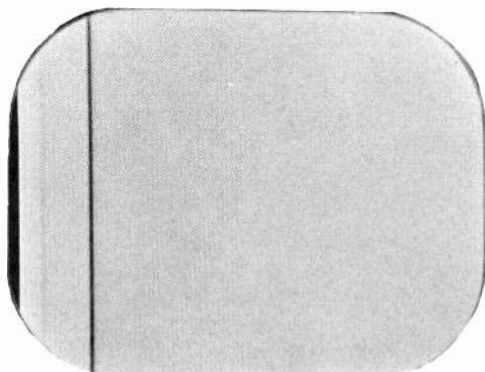

Fig. 1-B. *Appearance of Barkhausen oscillation on screen.*
**SYMPTOMS:** Black vertical line as shown in Fig. 1-B.